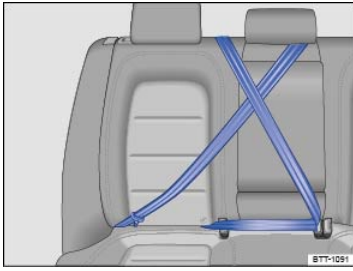

Fig. 76 Keep unused safety belts away from children in child restraints.
You must take special precautions when installing a LATCH/UCRA child restraint behind the front passenger or driver seats. Always route the center safety belt and the unused safety belt for the seating position where the child restraint is being installed securely out of the child's reach. Securing the safety belts will help prevent a child from playing with an unused safety belt and becoming entangled with it ⇒ Fig. 76.
- Buckle the safety belt ⇒ Fig. 76.
You must take special precautions when installing a child restraint with the vehicle safety belt or with LATCH/UCRA lower universal anchorages behind the front passenger seat or behind the driver seat. Always route the center safety belt and the unused safety belt for the seating position where the child restraint is being installed securely out of the child's reach. Securing the safety belts will help prevent a child from playing with an unused safety belt and becoming entangled with it ⇒ Using a child restraint on the rear seat, ⇒ Fig. 76.